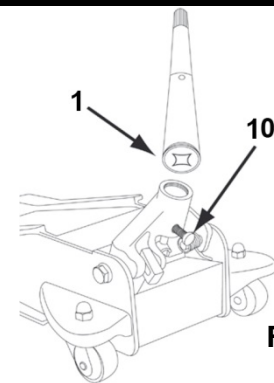

Fig. 3
3. Fully undo the screw (10) located in the pump arm (8) socket appears for fitting the assembled pumping lever (1) (Figure 3).
4. Align the rectangular opening on the underside of the pumping lever (1) with the rectangular bolt inside the socket of the pumping arm (8).
5. Secure the pumping lever (1) at its installation position by tightening the screw (10) on the socket of the pumping arm (8).